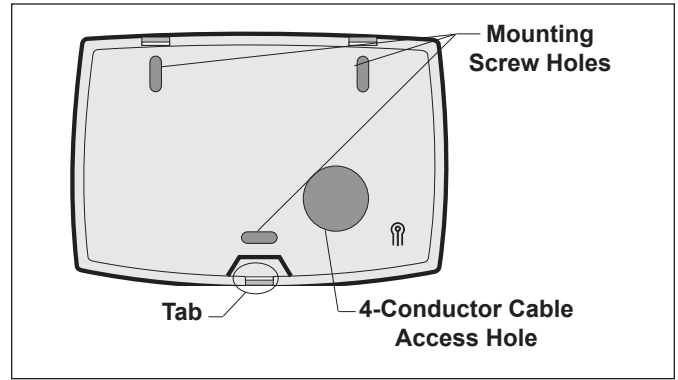

Figure 23. All Button Control Panel - Back View
- Open the indoor control panel assembly by pressing in on the tab located on the lower end of the back of the control panel (see Figure 23). Place the back of the control panel against the wall. Level the back of the control panel and mark the three (3) mounting screw holes and the cable access hole.